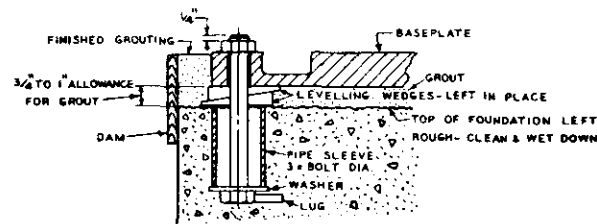

Fig. 3-2
tified outline drawing supplied to the purchaser. Each bolt is installed in a pipe sleeve, the inside diameter of which should be three times the outside diameter of the bolt. The pipe sleeve allows for minor adjustments in bolt spacing after foundation is in place (Fig. 3-2). Two methods commonly used to secure and prevent bolts from turning are:
- a. A washer is placed between the bolt head and pipe sleeve with a lug welded to the bolt head (Fig. 3-2).
Stuff waste paper between foundation bolts and sleeves to prevent concrete from entering while foundation is being poured. Foundation bolt must be long enough to allow from $\frac{3}{4}$ " to 1" for grouting under the baseplate (Fig. 3-2). When pump is level, the bolts should extend $\frac{1}{4}$ " through the nuts. Leave top surface of foundations rough for adherence of grout.
2. **Grouting** — Build a board dam around the foundation to the desired height for finished grouting (See Fig. 3-2). A mixture of one part portland cement to two parts clean sand with just enough water to mix to a thick creamy consistency should be made for grout. Wet the underside of the baseplate and foundation top, then pour the grout through the holes in the baseplate. Thoroughly puddle the grout during pouring to prevent air pockets and hollow spots. After grout has set sufficiently, remove the board dam and finish off the grout as desired. When grout has hardened, usually in about 48 hours, pull up on foundation bolts.